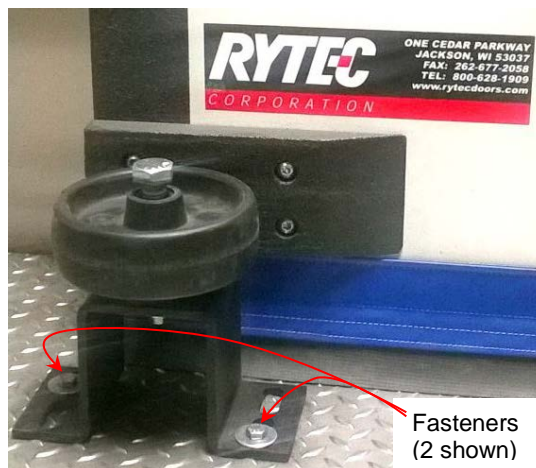

Figure 21
2. Tighten and replace any loose or missing hardware as necessary. (See Figure 21.)